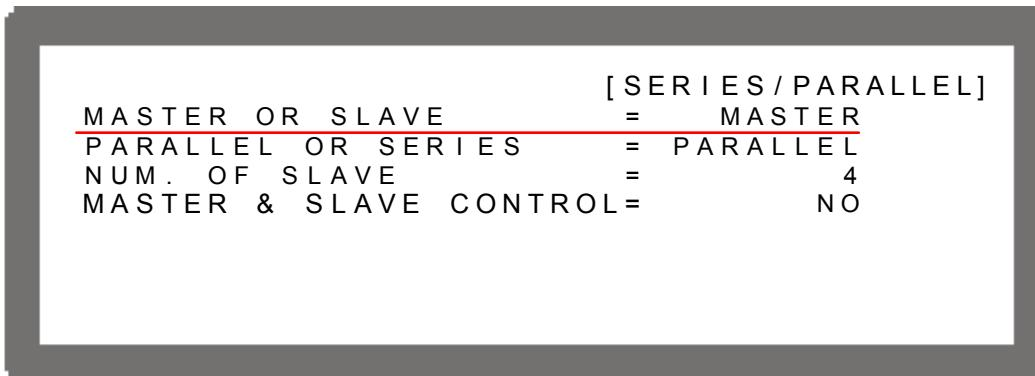

Figure 3-36
1. In the Config Setup, press “**3**” and “**ENTER**” to select PARALLEL /SERIES (see Figure 3-36).